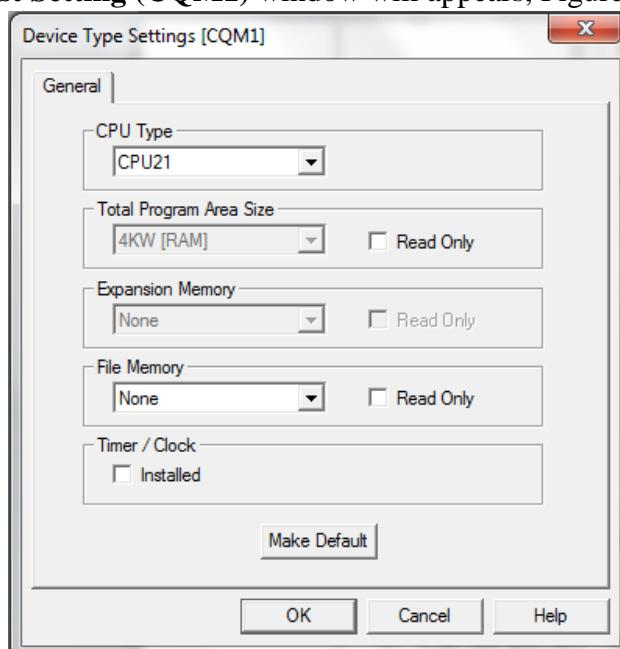

Figure 1.4 Device Type Setting
3. Fill the **Device Name** with your own word as project name. In **Device Type** select **CQM1** (in this experiment CQM1 type is used). Then press the **Settings** button so that **Device Test Setting (CQM1)** window will appears, Figure 1.4.